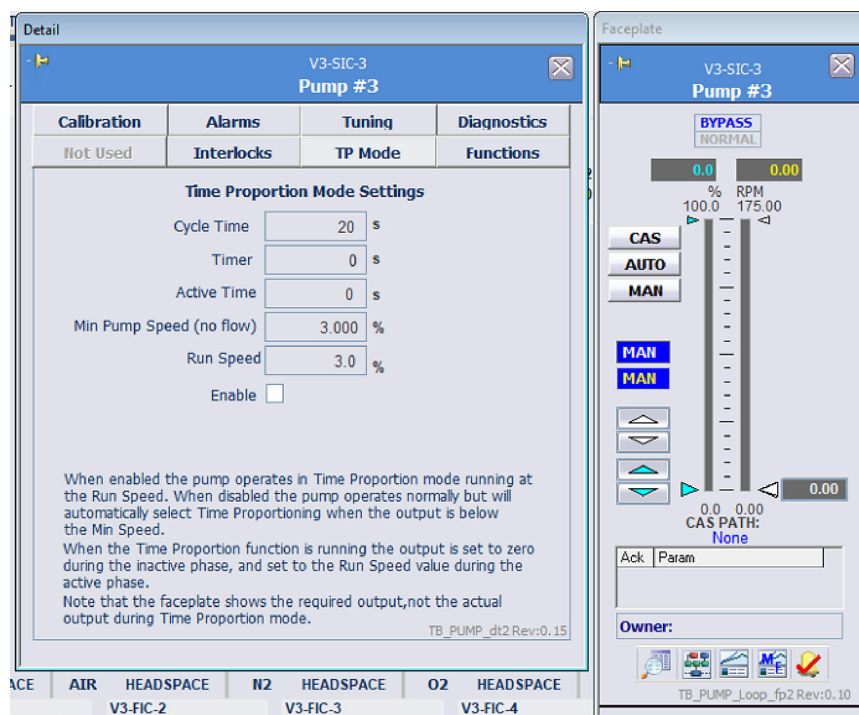

Figure 2.17. TP Mode tab details.
Time Proportion (TP) mode (Figure 2.17) is specific to the pump **Detail** windows. When enabled, the pump operates in **TP** mode at the Run Speed. When disabled, the pump operates normally, but automatically selects the **TP** mode when the output is below the Minimum Speed.
Refer to Figure 2.17 for the following steps. To enable time proportioning: